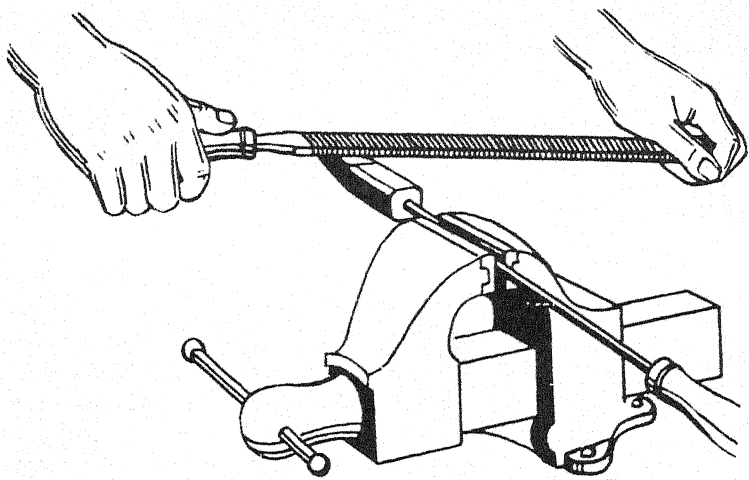

Figure 95.—Filing a copper.
2. Clamp the copper in a vise as shown in figure 95.